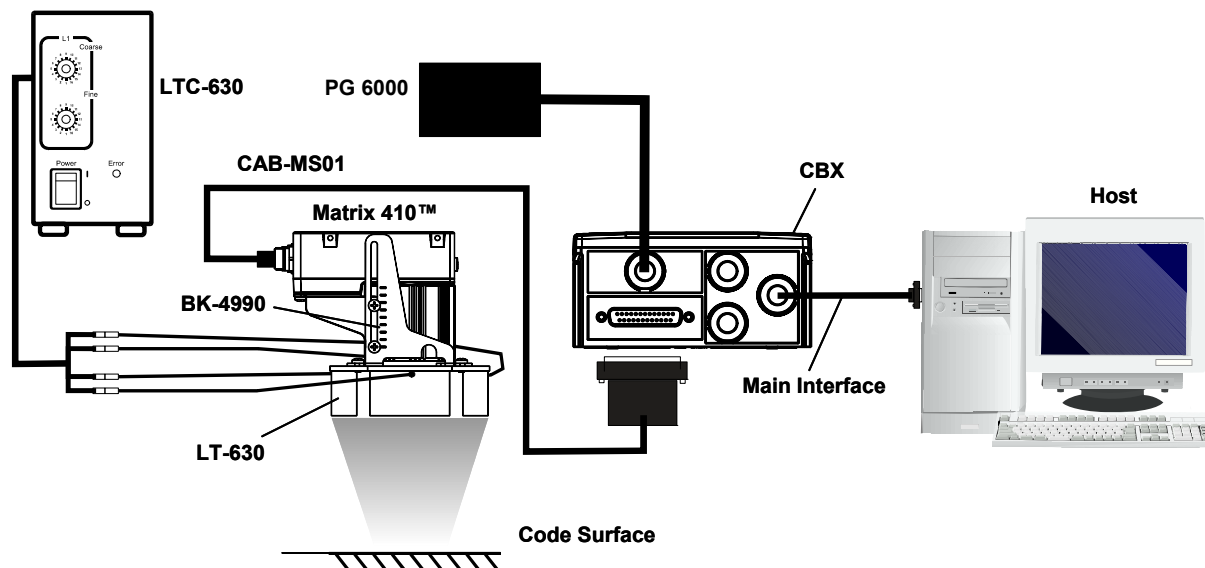

Figure 1 - ISO/IEC 15415 and ISO/IEC 15416 Verifier System Required Hardware
To install the Matrix 410™ reader in an ISO/IEC 15415 or ISO/IEC 15416 symbol verifier configuration, you need the hardware indicated in Figure 1.
*The recommended ISO/15415 and ISO/IEC 15416 lighting environment (see Figure 1) can also be used for AIM DPM symbol verification according to your application requirements. See par. 4.2.*